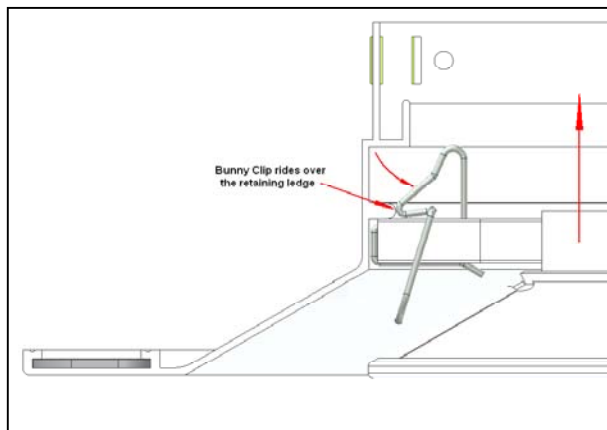

*Figure 13: Locate Core in Diffuser opening*
- d) To replace the Core, simply centralise the core in the Diffuser opening, resting the Bunny Clips on the retaining ledge within the Outer Frame (See figures 13 & 13a).